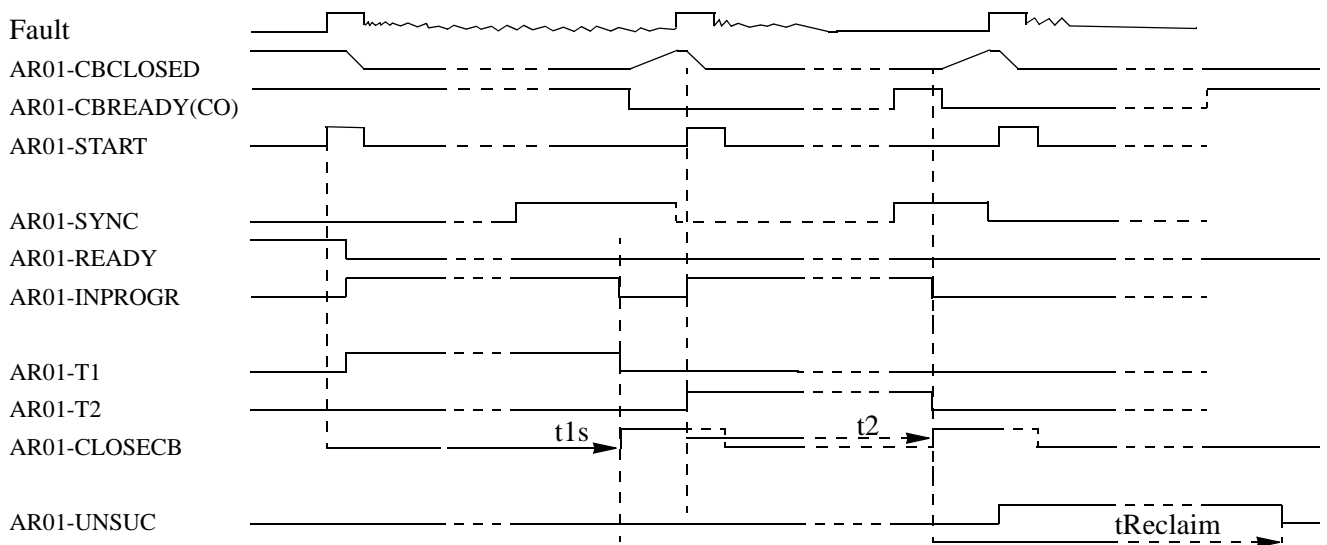

Figure 12: Example. Permanent three-phase fault, two-shot reclosing.
- 2.6 A few fault cases may be checked, for example, single-phase, two-phase and three-phase trips, transient, and permanent fault. The signal sequence diagrams in Figure 12: and fig12 can be of guidance for the checking.